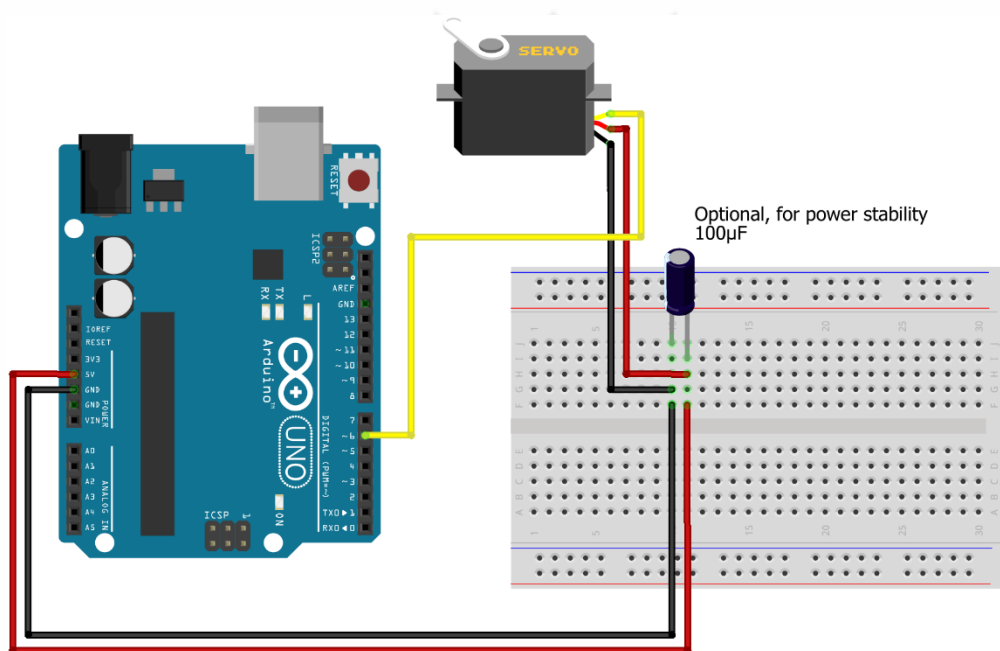

Figure 4.1 – Wiring diagram for SG90 servo motor
- Connect the servo motor as shown in the wiring diagram (Figure 4.1). If available, place a **100 μ F capacitor** between 5V and GND near the servo.